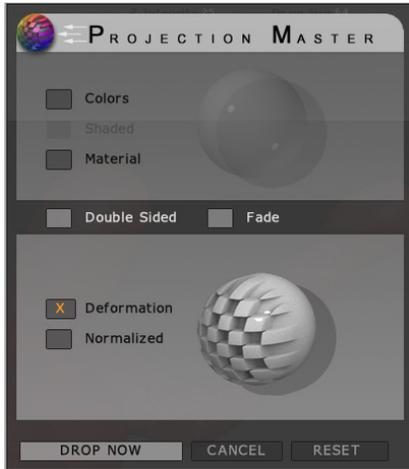

Figure 3-96 The **Deformation** check box selected
- Select the **Deformation** check box from the **Projection Master** dialog box and make sure other check boxes are not selected, refer to Figure 3-96. Next, choose the **DROP NOW** button from this dialog box; a message box is displayed. Choose the **Activate Polypainting** button from this message box; the 3D plane is converted into its 2.5D illustration.